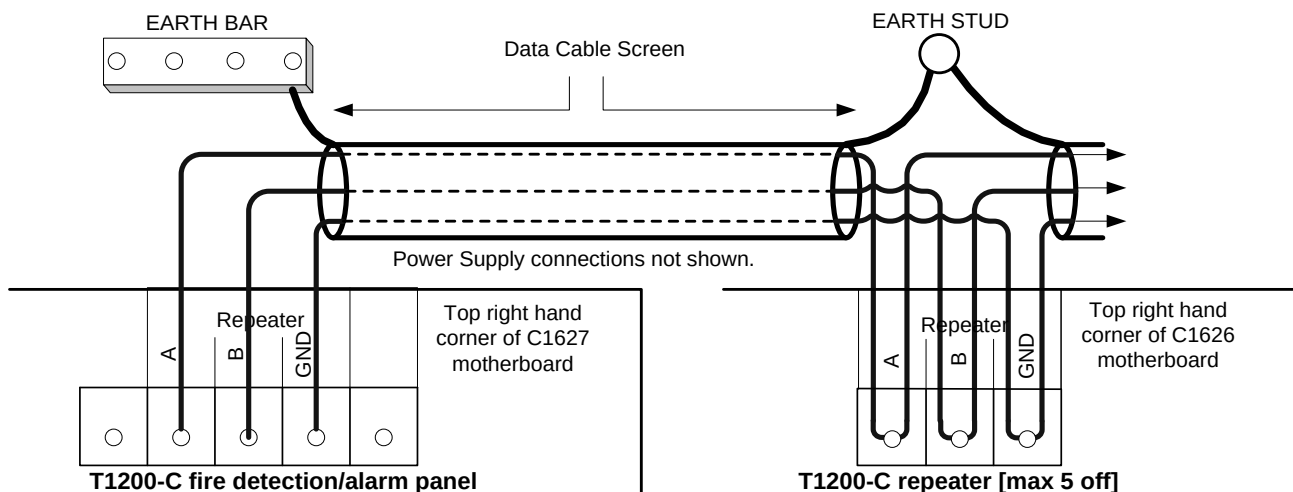

Figure 4– Repeater connection diagram
4. Connect the RS485 data cable as shown in Figure 4.